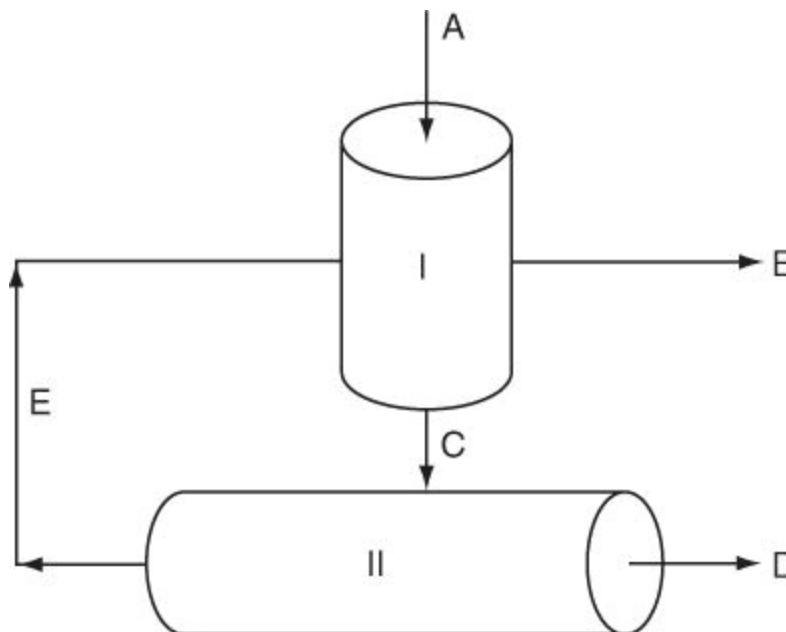

Figure P6.3.4
****6.3.4.** In the process shown in Figure P6.3.4, unit I is a liquid-liquid solvent extractor and unit II is the solvent recovery system. For the purposes of designing the size of the pipes for streams C and D, the designer obtained from the given data values of $C = 9630 \text{ lb/hr}$ and $D = 1510 \text{ lb/hr}$. Are these values correct? Be sure to show all details of your calculations or explain if you do not use calculations.